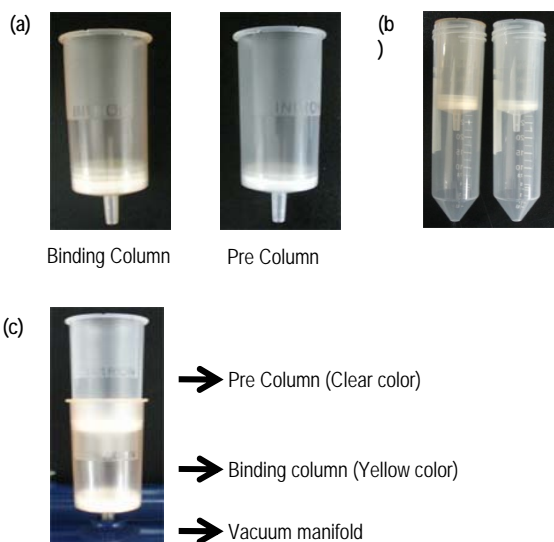

Fig. 1. Shape and application of Pre & Binding Column
6. Assemble a column stack by placing Pre Column (clear color) into the top of Binding Column (yellow color). Attach the assembled column stack onto a port of the vacuum manifold tightly. And then pour all of the lysate to Pre Column. (See the EXPERIMENTAL INFORMATION's Figure 1.)